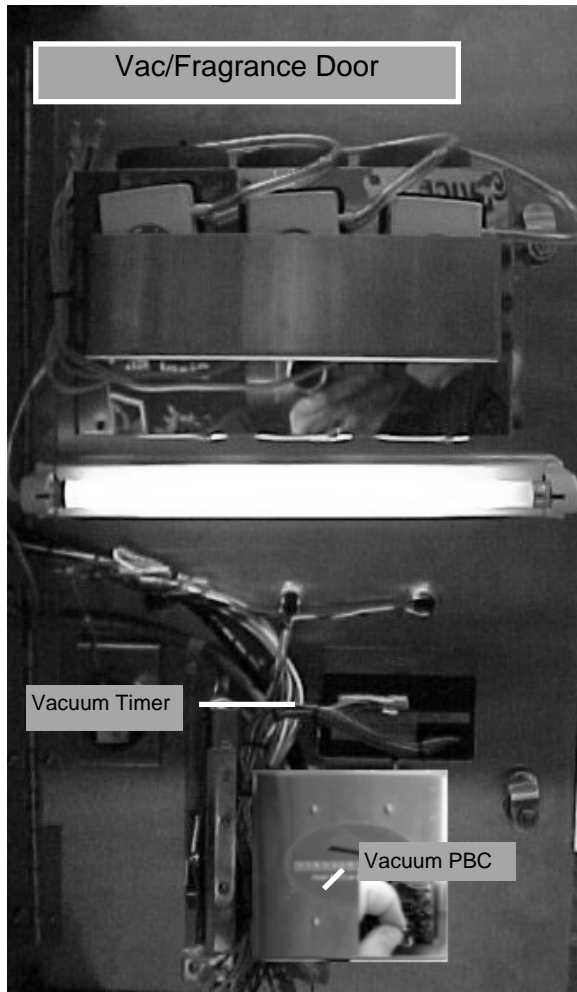

Figure 12
2. Like the bays the vacuums will have a PBC and a timer connected together via RS-485 connections. (See Fig 12)